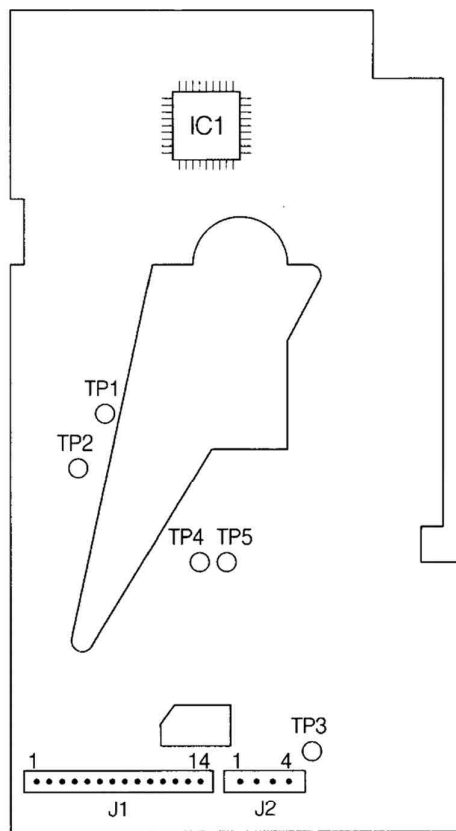

Fig. 2
- Connect channel A of the oscilloscope via a 10:1 probe with test point TP1 (for a survey of the test points, see figure 2).